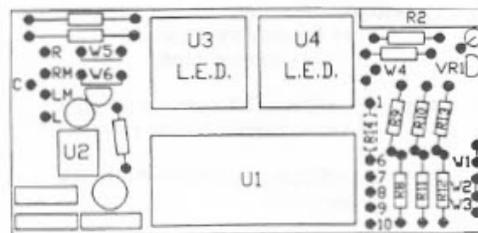

Figure 3. Component Location
1. Connector. The connector (purchased separately) after assembling, is plugged onto pins at rear of meter. Line up connector key with missing pin in position 2. Pin 1 in Figure 3 is the pin that's by itself. (Pin 2, 3, 4 and 5 are not installed on the meter PC board.)
3. Signal. For most applications it is desirable to have SIGNAL LO (Pin 6) connected to power ground (pin 7). As shipped, the meter makes this connection with a printed circuit trace labeled "W1." Connect signal HI and signal LO of the source to pins 1 (HI) and 6 (LO) respectively of the meter. A shielded cable may be required if the signal source has a high resistance. If there is any connection between source LO and power ground (other than W1), and if instability is observed in the least significant digits of the display, this instability may be improved by cutting the "W1" PC trace.
- Install jumper W3. (See Figure 3)
3. Observe resistor values that are in meter and compare to figure 3 and Table II. Install resistors specified in Table II to attain desired range.
Refer to Figure 3 & 4 and Table III, for position of R14. Higher currents are measured by using an external current shunt. (Call factory for requirements)